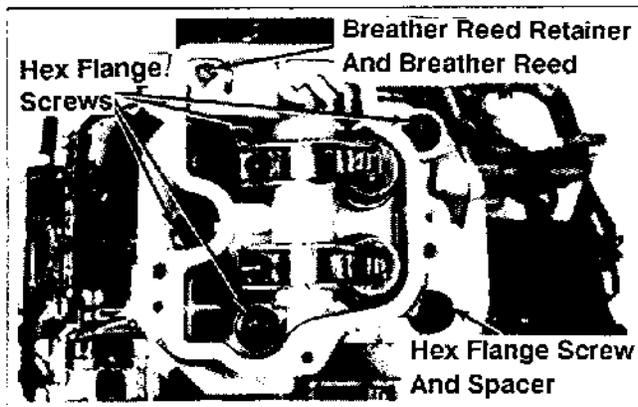

Figure 11-30. Installing Cylinder Head.
2. Install the cylinder head spacer (closest to the exhaust port) and hex flange screws. See Figure 11-30.